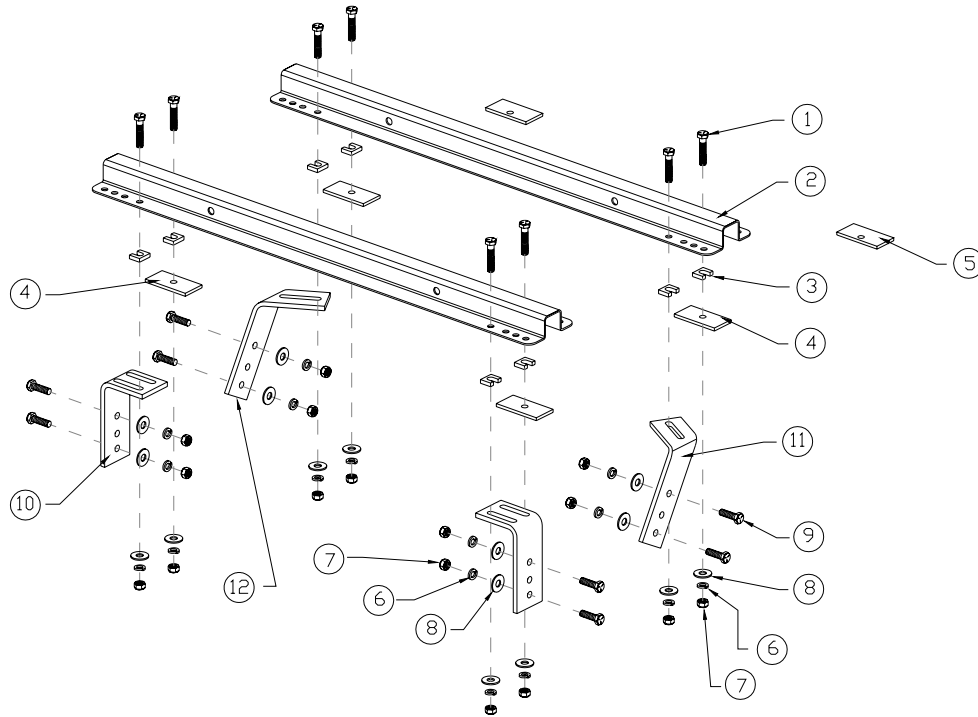

Figure 2
3. Check the part quantities in the kit using the parts list and drawing on page 3. Make sure that items (11) and (12) are right and left hand parts (see page 4, Table 2 and Figure 2).
10. Using the same small drill bit, drill and check for possible obstructions of those Base Rail hole locations where no Mounting Bracket will be used. Adjust bed hole pattern location as needed, (See Figure 2 and Table 2 on page 4), and note the use of Center Hole and Offset Hole Back-up Plates (4 and 5). These Back-up Plates are simply large washers meant to provide a larger surface contact than a standard flat washer. The Offset Hole Back-up Plate (5) is used where clearance is a problem.